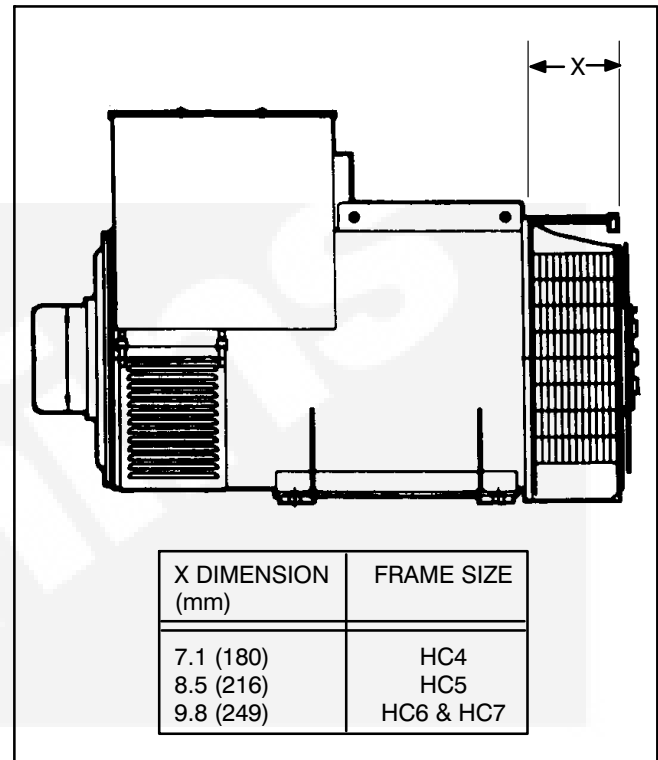

FIGURE 6-15. GENERATOR FRAME SIZE
23. Remove the hoist/sling support of the rotor assembly. Align the holes of the engine adaptor endbracket with the holes in the flywheel housing and install the capscrews and lock washers. Refer to Figure 6-15 and Table 6-3 for torque specifications.